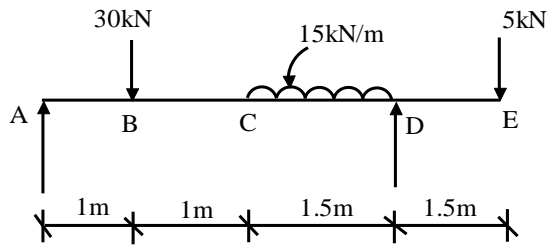

Fig:4
10. For the beam shown in Fig. 4, Calculate slope at A and D. Also calculate deflection at B, C and maximum deflection. 13